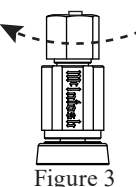

Figure 3
3. Rotate the top of the Output Terminal Post clockwise until it is finger tight. Refer to figure 3. Then using the McIntosh Wrench, rotate the top of the Output Terminal one quarter of a turn (90°). **Do not over tighten.**
4. Rotate the top of the Output Terminal Post clockwise until it is finger tight. Refer to figure 3. Then using the McIntosh Wrench, rotate the top of the Output Terminal one quarter of a turn (90°). **Do not over tighten.**